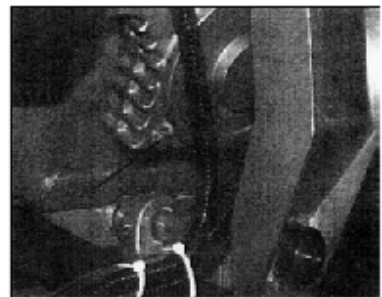

Fig.24
4. Drain the gear box by removing screw (A) Fig. 24.
5. Replace screw (A) Fig. 24. and lower the saw arm to its lowest position.
Occasionally lubricate the pivot bearings using a waterproof grease at the two zerk fittings (C) Fig. 24.